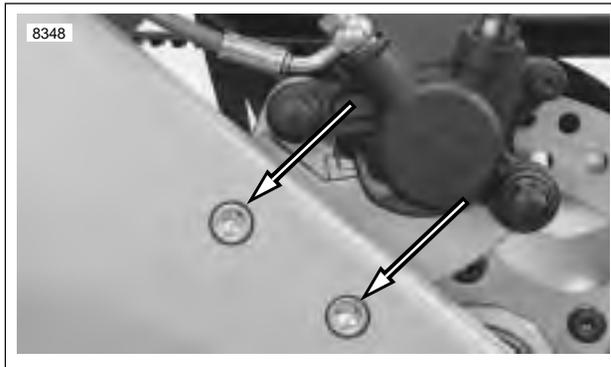

Figure 2-27. Rear Brake Caliper Carrier Fasteners
9. See Figure 2-27. Install caliper carrier and tighten fastener to 24-26 ft-lbs (32-35 Nm). See 2.15 REAR BRAKE CALIPER.